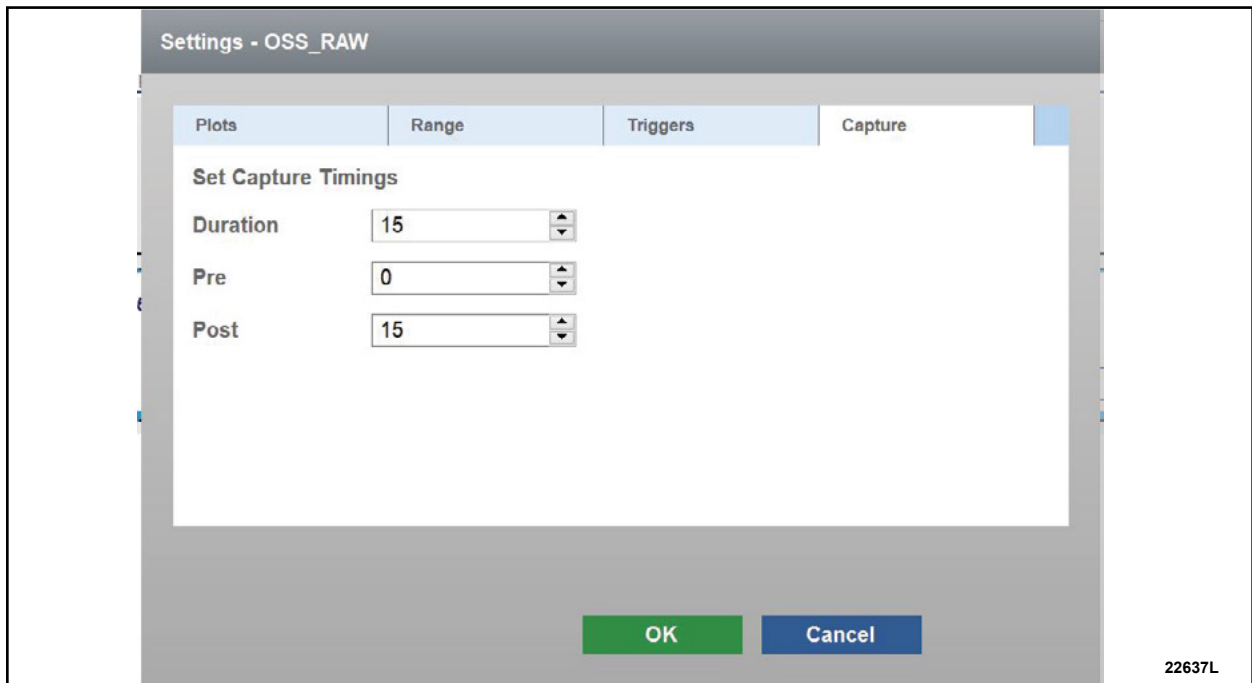

FIGURE 5
13. Make sure the Duration is set to 15, with Pre set to 0 and Post set to 15. See Figure 5.